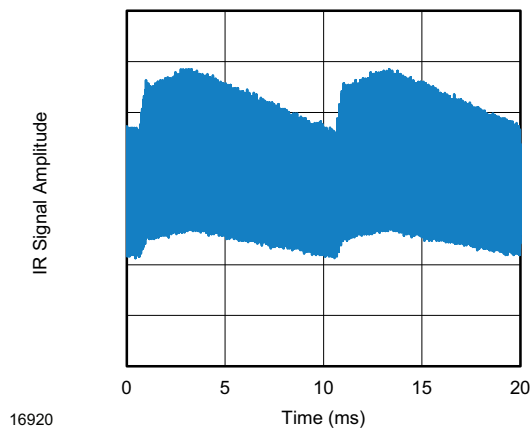
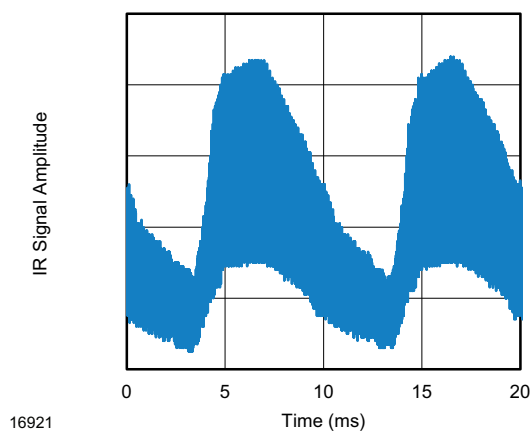

Fig. 13 - IR Disturbance from Fluorescent Lamp With Low Modulation
Fig. 14 - IR Disturbance from Fluorescent Lamp With High Modulation
- Strongly or weakly modulated noise from fluorescent lamps with electronic ballasts (see Fig. 13 or Fig. 14)
| Suppression of interference from fluorescent lamps                            | Fig. 13                         | Fig. 13 and Fig. 14              |